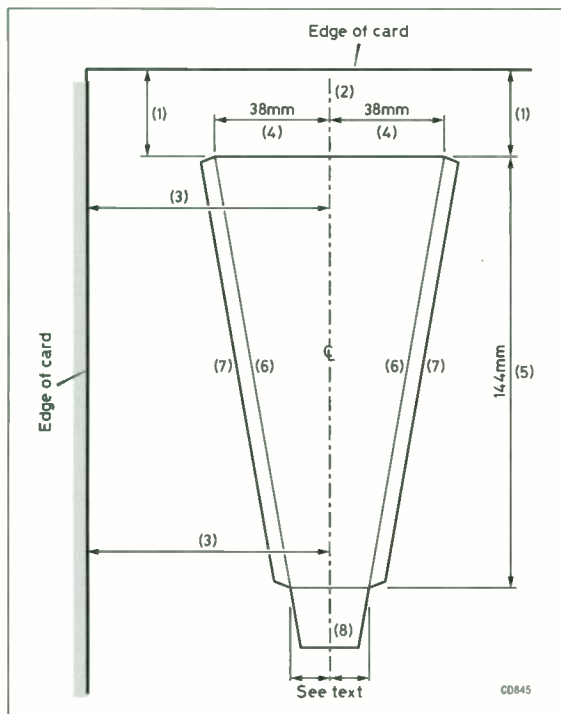

Fig 3.36. Making your own template
Fig 3.36 shows the method of marking out the outline of the panels of the horn. Instead of trying to mark out the shape directly onto the metal you will find it easier to draw the outline on a piece of fairly thick paper. Something almost as thick as an ordinary postcard would be ideal. Either use a square to mark the wide end (1) or place two marks equidistant from one edge of the card and join them up. From this the centre line (2) can be drawn by marking off equal distances at both the wide and narrow ends (3) of each piece. Next mark 38mm on either side of the centre line to define the wide end of the panel (4). The narrow end is 144mm from the wide end and this distance is marked off along the centre line (5). The procedure just described is the same for all four panels but for the next step it is necessary to determine the width of the narrow end. This is the outside measurements of the piece of waveguide (WG16) to be used to connect the horn to the flange which will be described